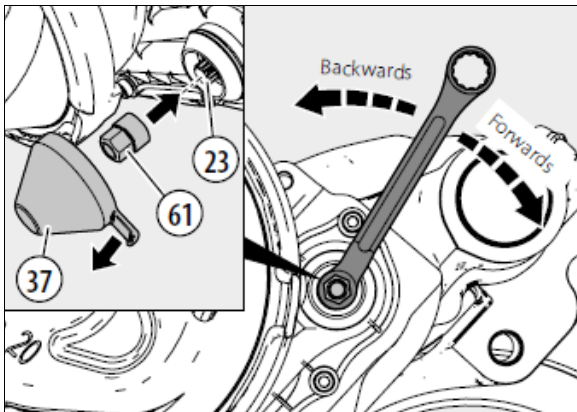

FIGURE 38: REMOVE CAP, INSERT NEW BRAKE PADS, SET THE STARTING GAP
7. Pull off the adjuster cap (37) using the tag, taking care not to lose the shear adapter (61) (see Figure 38).
*Removal of the adjuster cap (37) with a screwdriver, or similar, is not allowed since the seal may be damaged.*